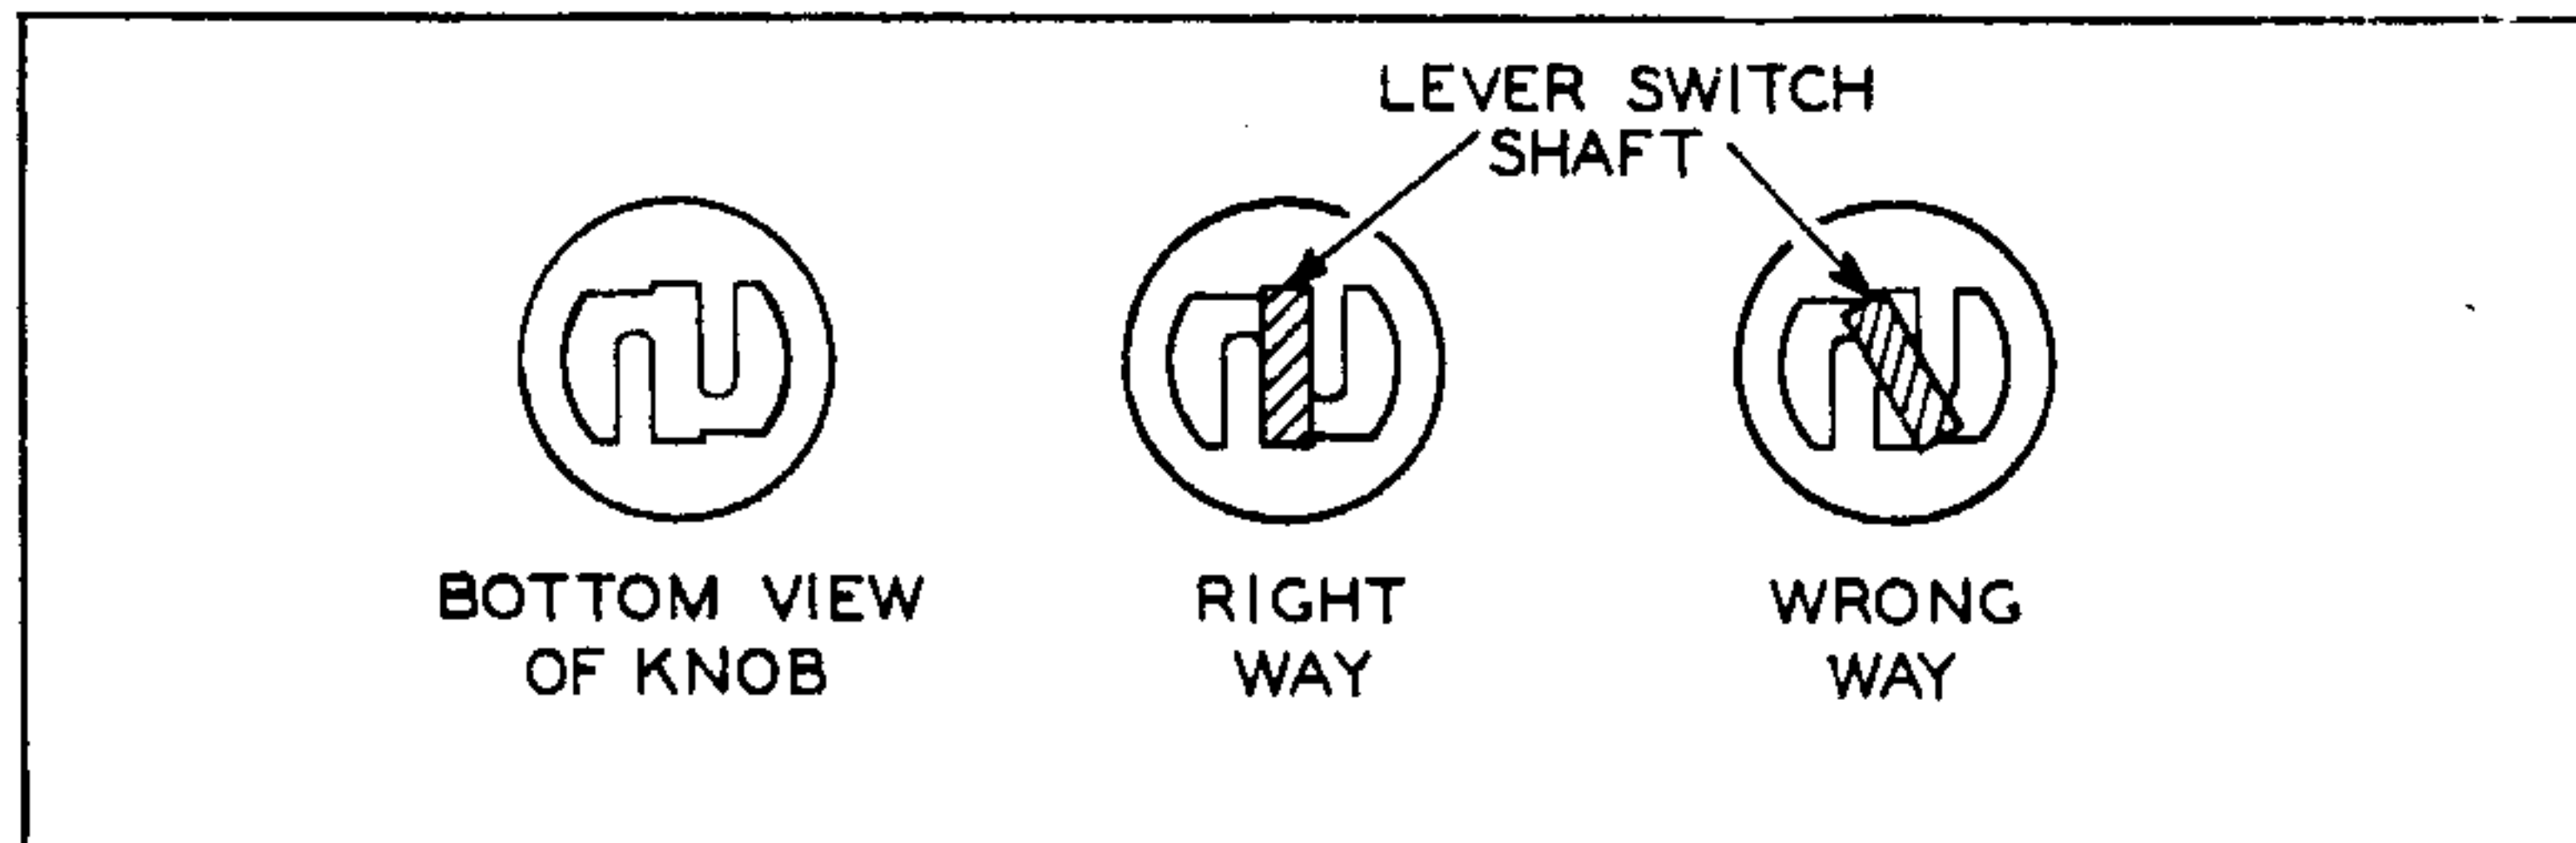

FIGURE 14. HOW TO PUT KNOBS ON THE LEVER SWITCHES
- ☐ 10 lever switch knobs. Push a knob on each shaft of S-4, as shown in Figure 14.